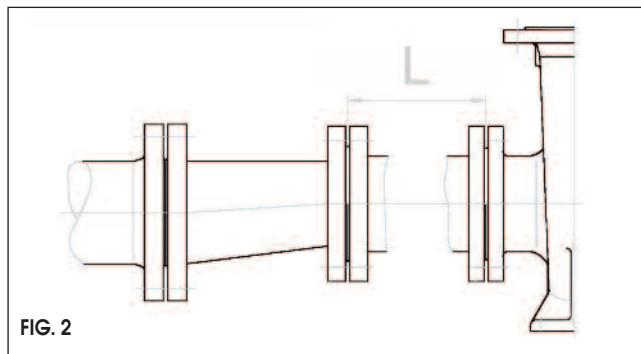

FIG. 2
- Where different diameter pipe work is to be used, connection should be by eccentric transition pieces. This will avoid the formation of air pockets in the pipe work (**fig. 2**).
- For difficult pumping on the suction side, to stabilise the flow, a pipe length 15 times the diameter of the suction branch should be installed before the suction branch (**fig. 2**).
Ensure that air pockets cannot be created. Unequal nominal widths of the suction branch and suction line must be compensated by eccentric transition pieces (**fig. 2**).